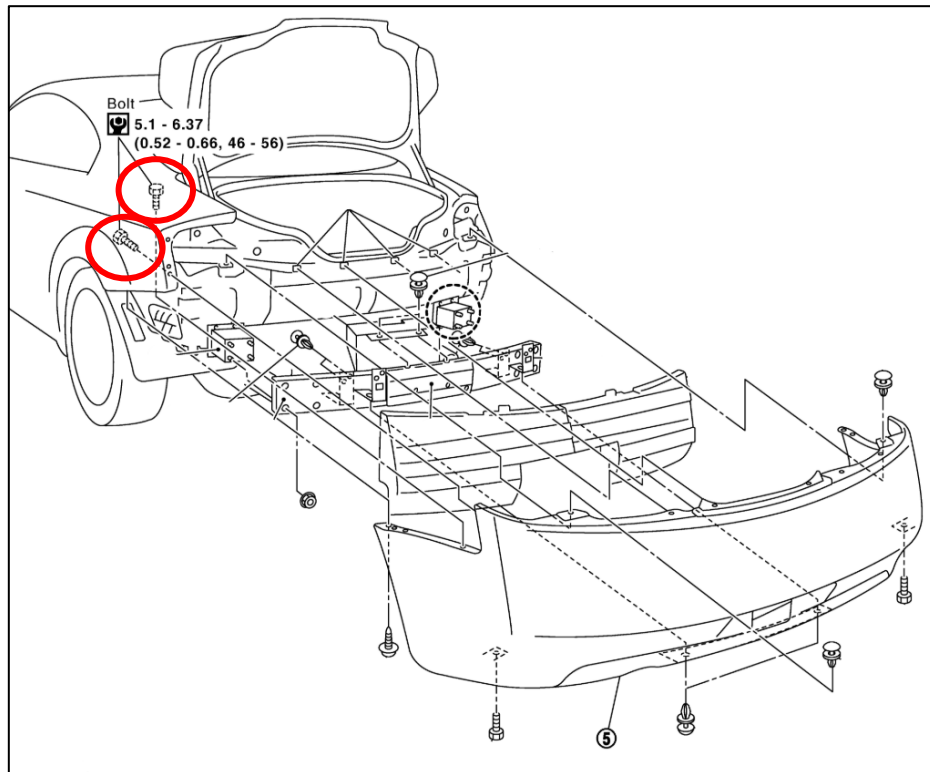

Figure 8
21. Remove the (4) four bolts, two on each side, that secure the bumper to the vehicle. They are located on the inside of the trunk. *Figure 8.*